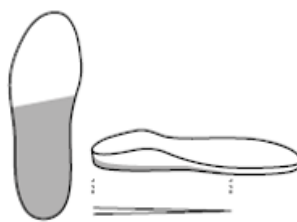
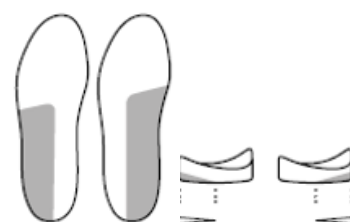

Fig. 1: Heel raise
Fig. 2: Inner or outer edge elevation
- After the material has cooled, grind the build-up material into a heel wedge (Fig. 1) or an inner or outer edge elevation (Fig. 2) on the grinder. The material should taper to 0 mm at the metatarsal heads (Fig. 2).